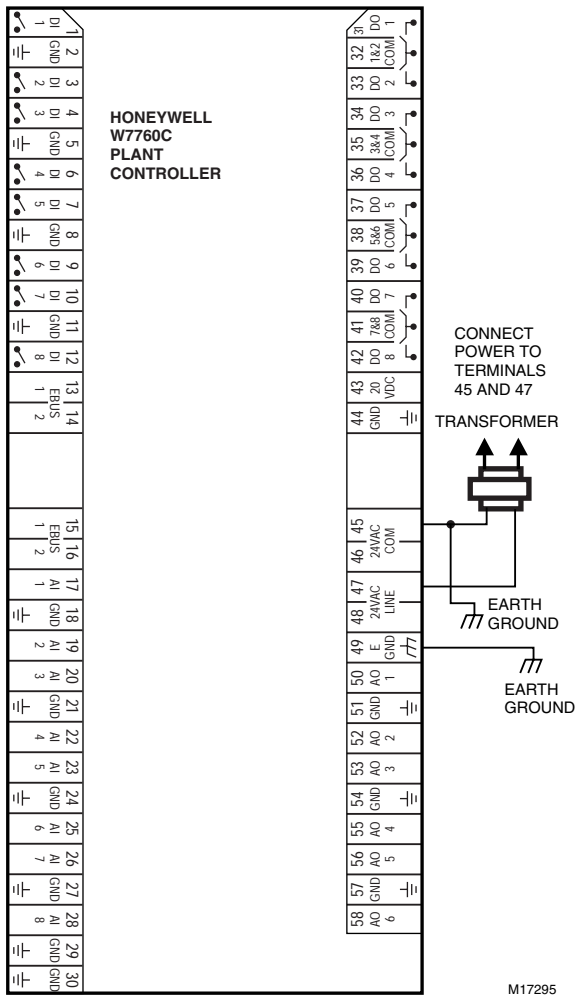

Fig. 9. Transformer power wiring details for one W7760C used in UL 1995 equipment (U.S. only).
*If the W7760C Plant Controller is used on **Heating and Cooling Equipment (UL 1995, U.S. only)** and the transformer primary power is more than 150 volts, connect the transformer secondary to earth ground, see Fig. 9. In this application, each transformer can power only one Excel 15 W7760C Plant Controller.*